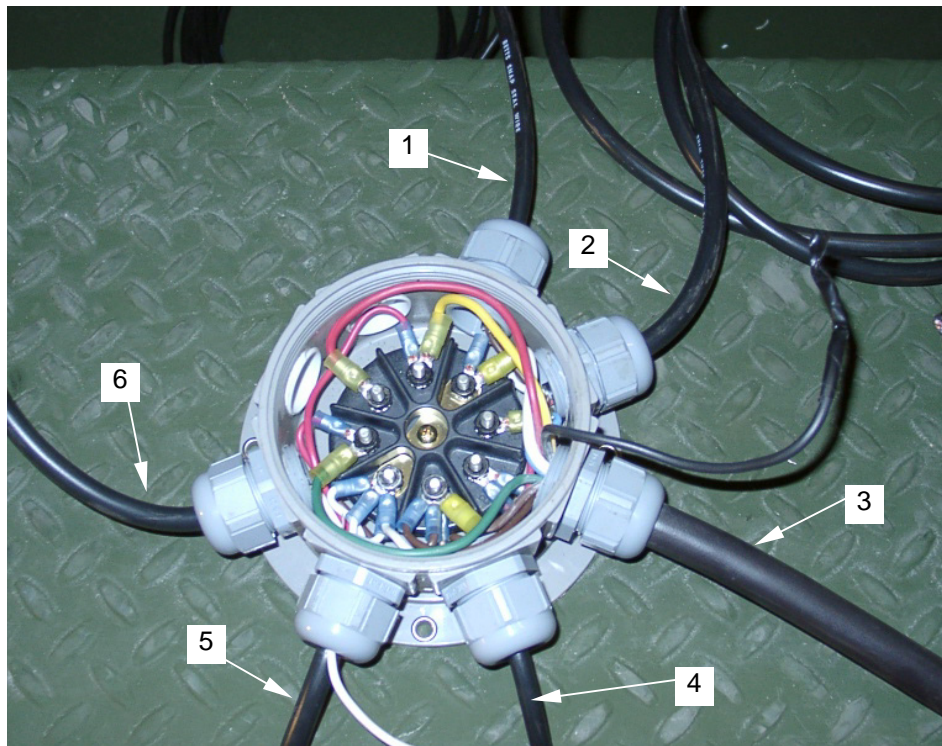

Figure 18. J-Box Connections
1. Work Light (**figure 18, item 1**).
2. ICC Light (**figure 18, item 2**).
3. Inter Vehicle Power Cable (**figure 18, item 3**).
4. Front Marker Lights (**figure 18, item 4**).
5. Left Back Lights (**figure 18, item 5**).
6. Right Back Lights (**figure 18, item 6**).